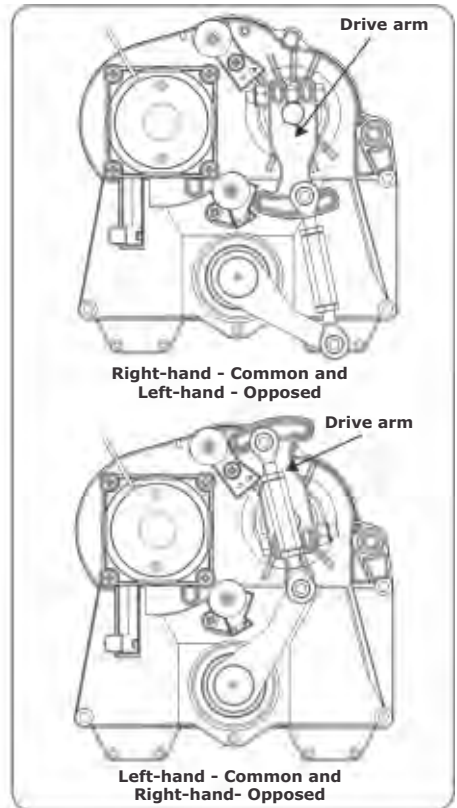

FIGURE 41. DRIVE ARM POSITION (SPIKES 'UP')
1. Using a 12V battery, drive the motor so that the drive arm rests up on the endstop when the spikes are in the 'UP' position as shown in Figure 41.